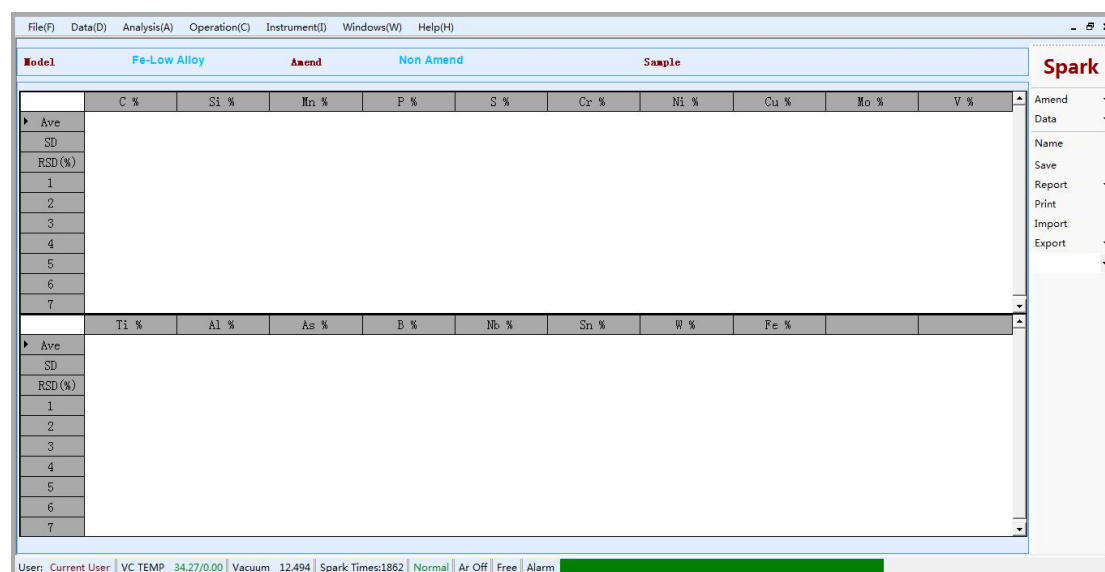

Figure 4-7 TEM and Vacuum
Step 1 Check the temperature (33.5 °C - 34.5 °C) and vacuum (7--20) of the instrument status bar, the instrument status is normal, as shown in Figure 4-7: